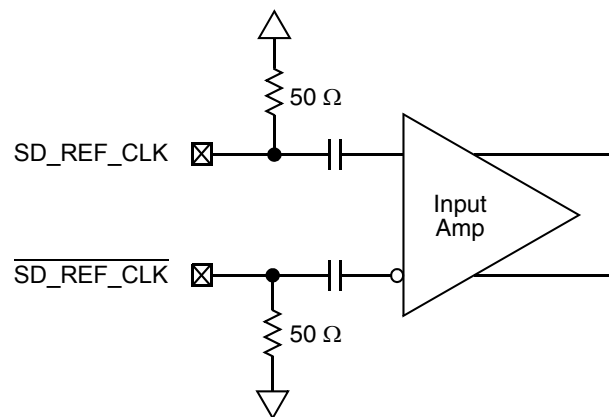

Figure 39. Receiver of SerDes Reference Clocks
Figure 39 shows a receiver reference diagram of the SerDes reference clocks.
- The SD_REF_CLK and $\overline{\text{SD_REF_CLK}}$ are internally AC-coupled differential inputs as shown in Figure 39. Each differential clock input (SD_REF_CLK or $\overline{\text{SD_REF_CLK}}$) has a 50- Ω termination to SGND_SRDS $_n$ (xcorevss) followed by on-chip AC-coupling.